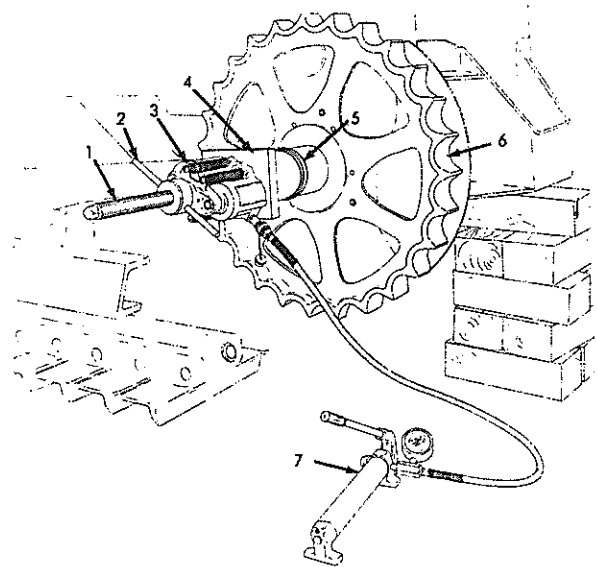

Fig. 18 Installing Track Sprocket on Sprocket Shaft (T-41470)
2. Refer to Figs. 18 and 19, assemble tools to press track sprocket on sprocket shaft.
If hydraulic tools shown in Fig. 18 and 19 are not available to install sprocket, use wrench shown in Fig. 4 (with necessary extensions) and tighten sprocket retaining nut to a torque of 3500 lbs. ft. After specified torque is obtained, shock sprocket ONCE with a heavy hammer, then re-torque sprocket retaining nut to specified torque.